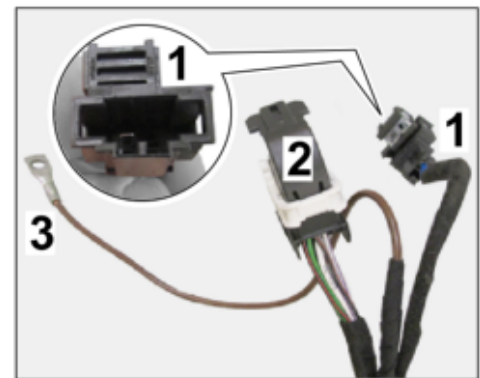

Figure 14
2.7.1 Connect plug connection (2-pin ⇒ *Figure 14*) for brake booster preparation in the luggage compartment area at the left.